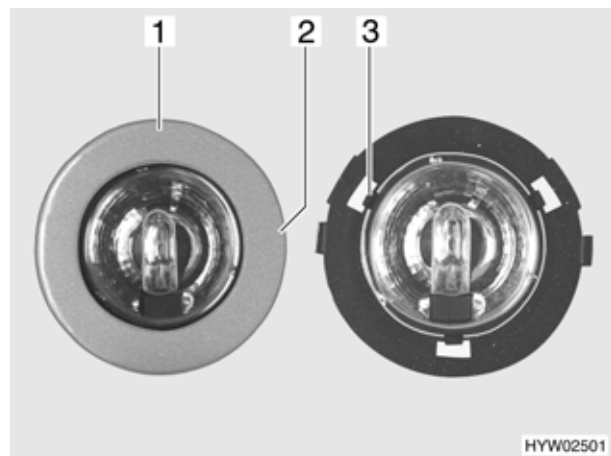

Fig. 171 Halogen lamp
- Turn the panel (Fig. 171,1) slowly until the shade screw underneath engages in the housing catch (Fig. 171,2).
- 3 clamps (Fig. 171,3) hold the glass of the halogen lamp in the housing. Push one of the 3 clamps to one side.